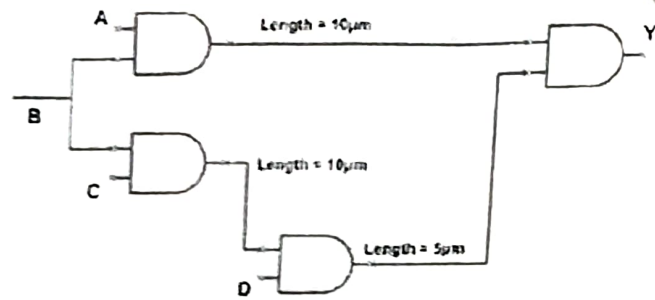

Fig. 1
2. Consider the circuit in Fig. 1. The resistance per unit length of the interconnect lines is 1 k Ω /μm and capacitance is 0.5 pF/μm. The arrival time of inputs A, B and D is at $t = 1$ ns while the arrival time of input C is at 5 ns. Delay of the AND gates in 180nm technology node is 10ns and delay of buffer is 1ns.